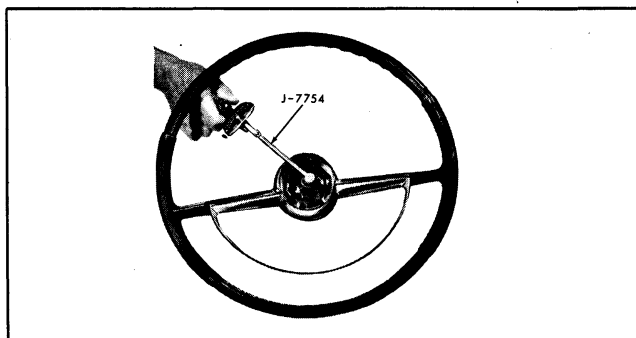

Fig. 9-5 Checking Steering Gear Adjustment
4. With 1b. in. torque wrench attached to a $\frac{5}{8}$ "-12 point socket, measure and record a least 30° off center (Fig. 9-5).